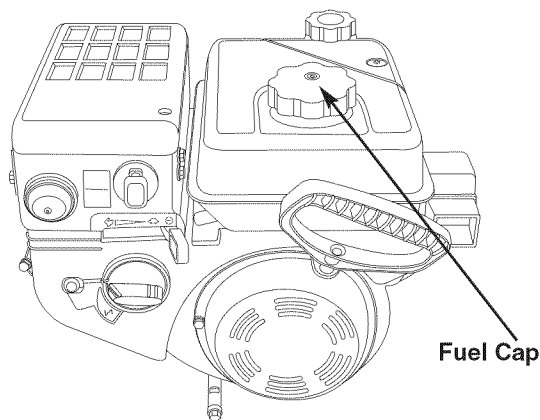

Figure 5
1. Clean around fuel filler neck before removing the fuel cap. (see Fig. 5)